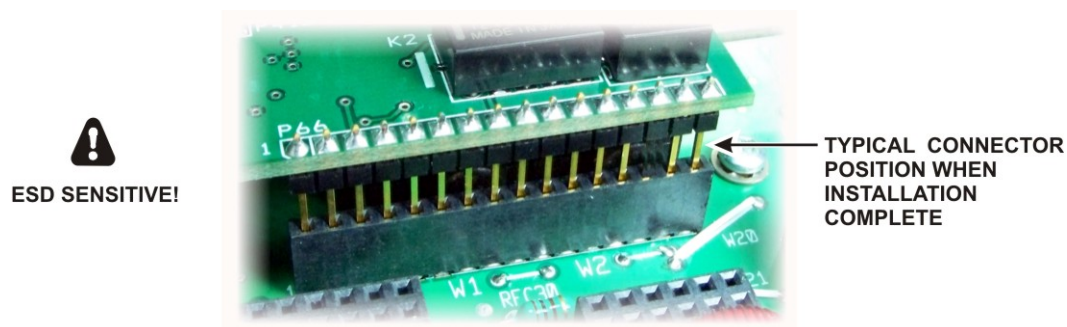

Figure 11. Typical Connector Fit.
- ☐ Adjust the depth the KXV3B board connector mates J66 on the RF board so the KXV3B connector panel is parallel with the back panel. The pins on the KXV3B board connector do not go all the way into J66 as shown in Figure 11.